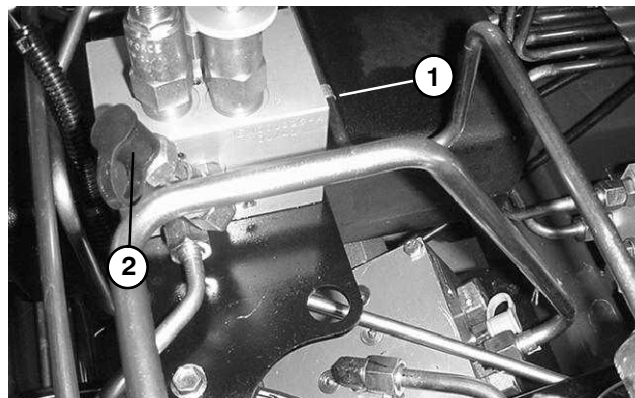
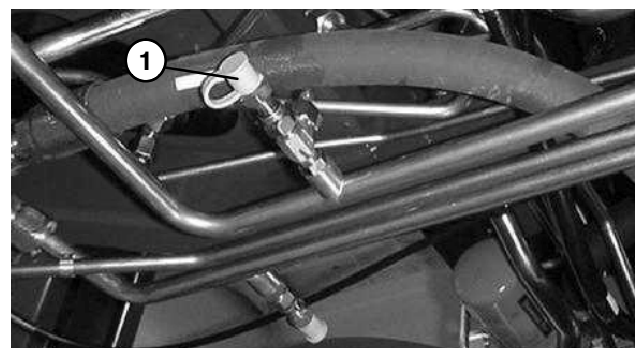

Figure 51
Figure 52
3. Connect a 1000 PSI gauge to counterbalance test port on power down and traction assist manifold under operator's seat (Fig. 51). Also, connect a 5000 PSI gauge to forward traction port on traction circuit hydraulic tube (Fig. 52).